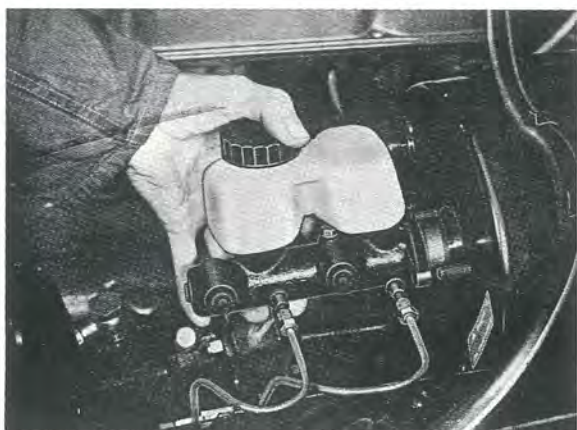

Fig. 5-44. Removing master cylinder
3. Remove the two retaining nuts for the master cylinder and lift the cylinder forwards, see Fig. 5-44. Empty out the brake fluid.